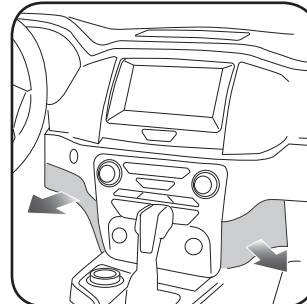

Fig. 1.3
3. Unclip and remove the lower trim panels to the left and right of the climate controls. (Fig. 1.3)